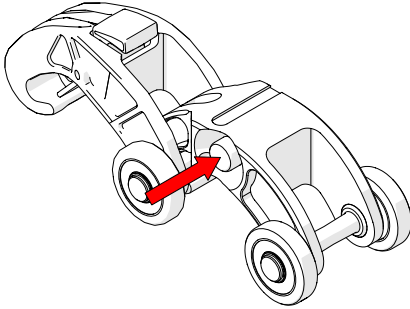

Fig. 68 - Press red button
1. Press the button on the side of the red dovetail link (*Fig. 68*).